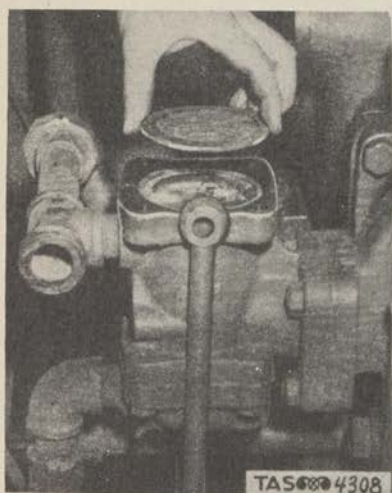

Figure 280. Removal of Rubber Diaphragm.
(11) Remove the rubber diaphragm. (Fig. 280)